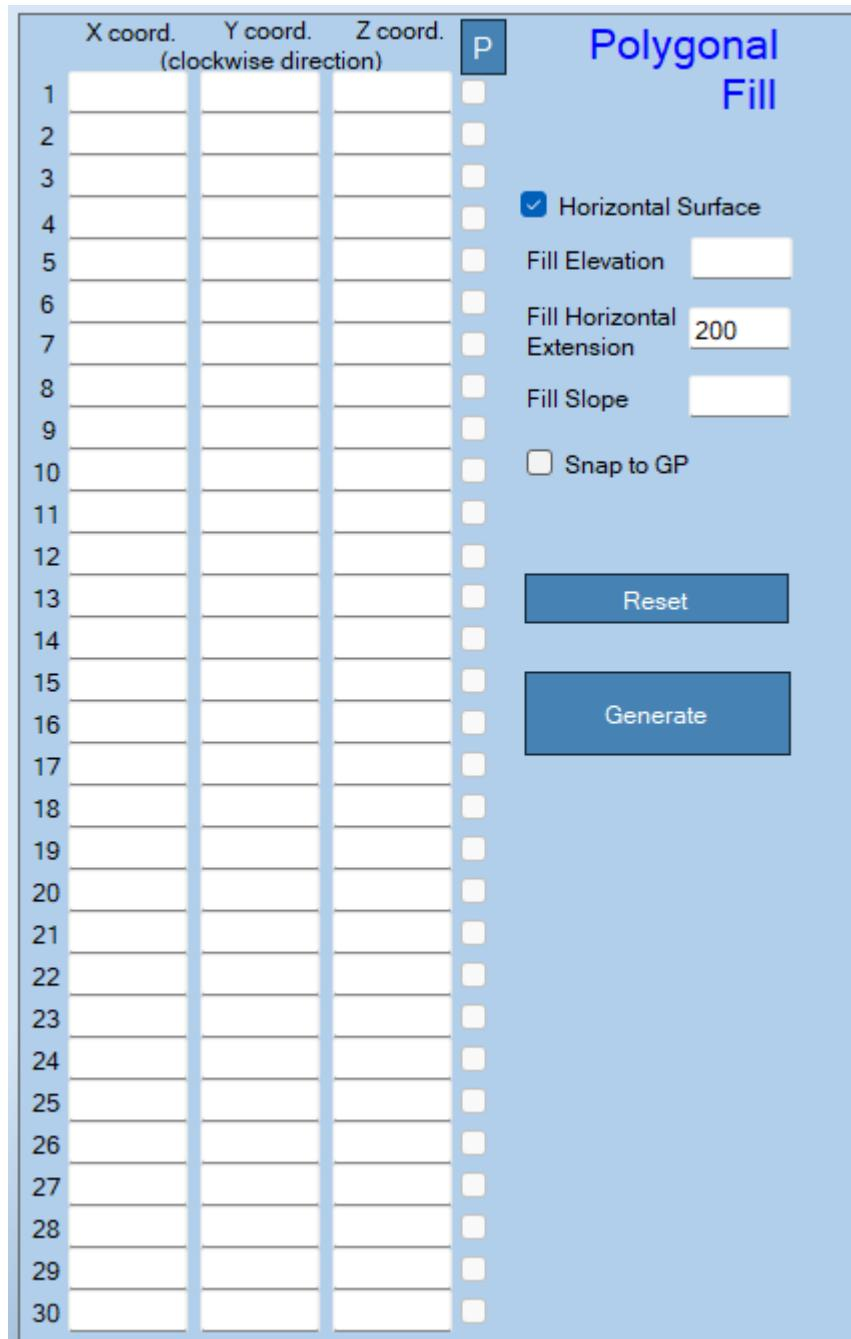

Figure 30: 3D Surfaces Menu – Polygonal Fill.
- **3D Surfaces Menu, Polygonal Fill:** This option (shown in Figure 30) defines a Polygonal Fill landform over any given surface.